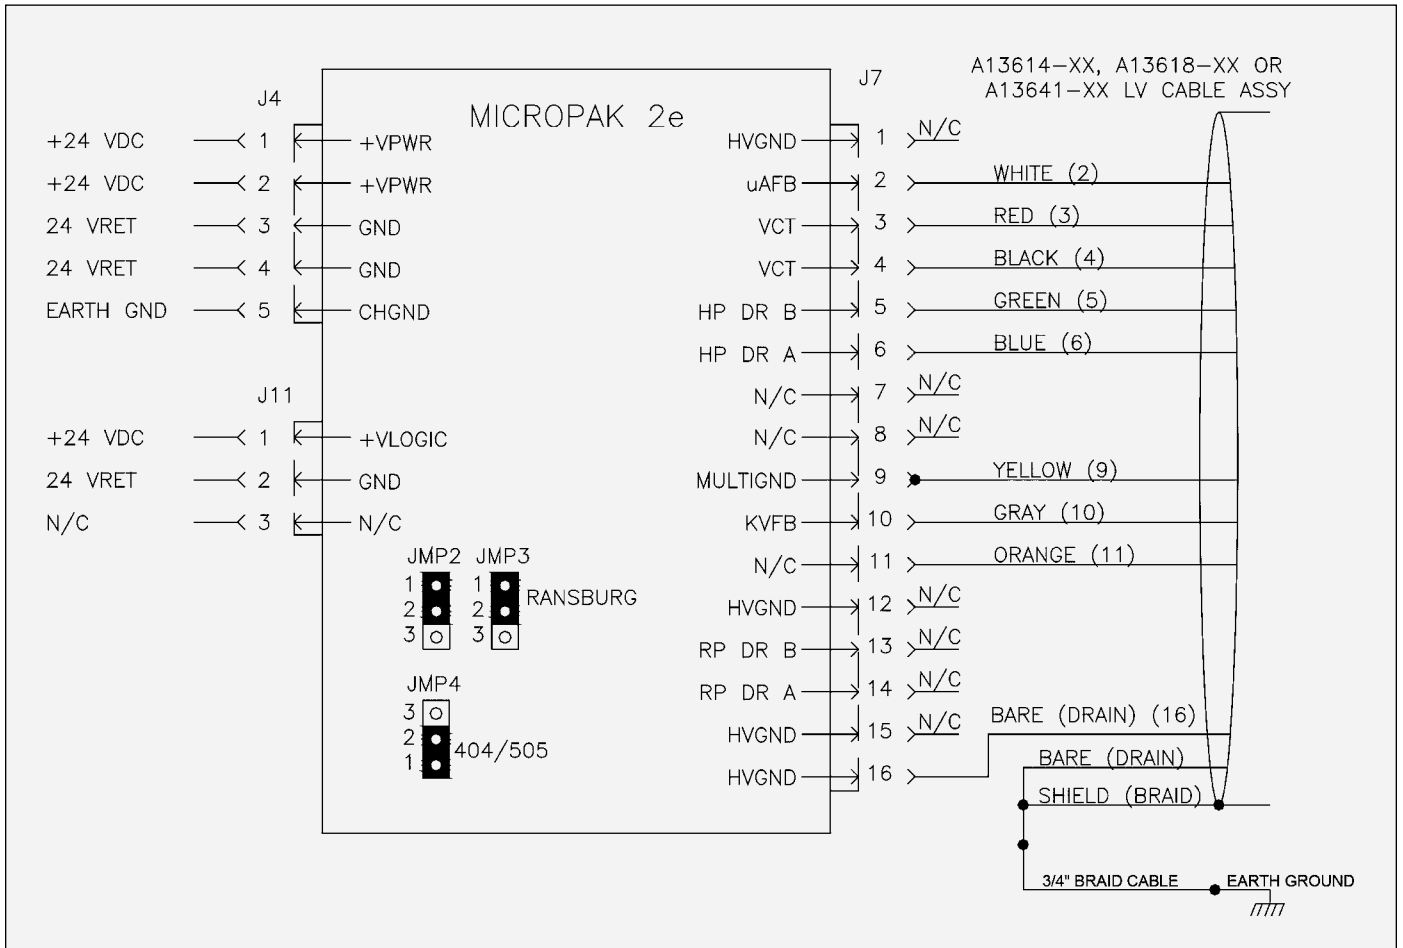

Figure 10: MicroPak 2e Controller W/HP404, RP-404 & HP505 Cascade
1. The Power Supply must be referenced to true earth ground at only one point, through the controller’s chassis ground connection. (Refer to Figures 10, 11, and 12 for Grounding Connections.)